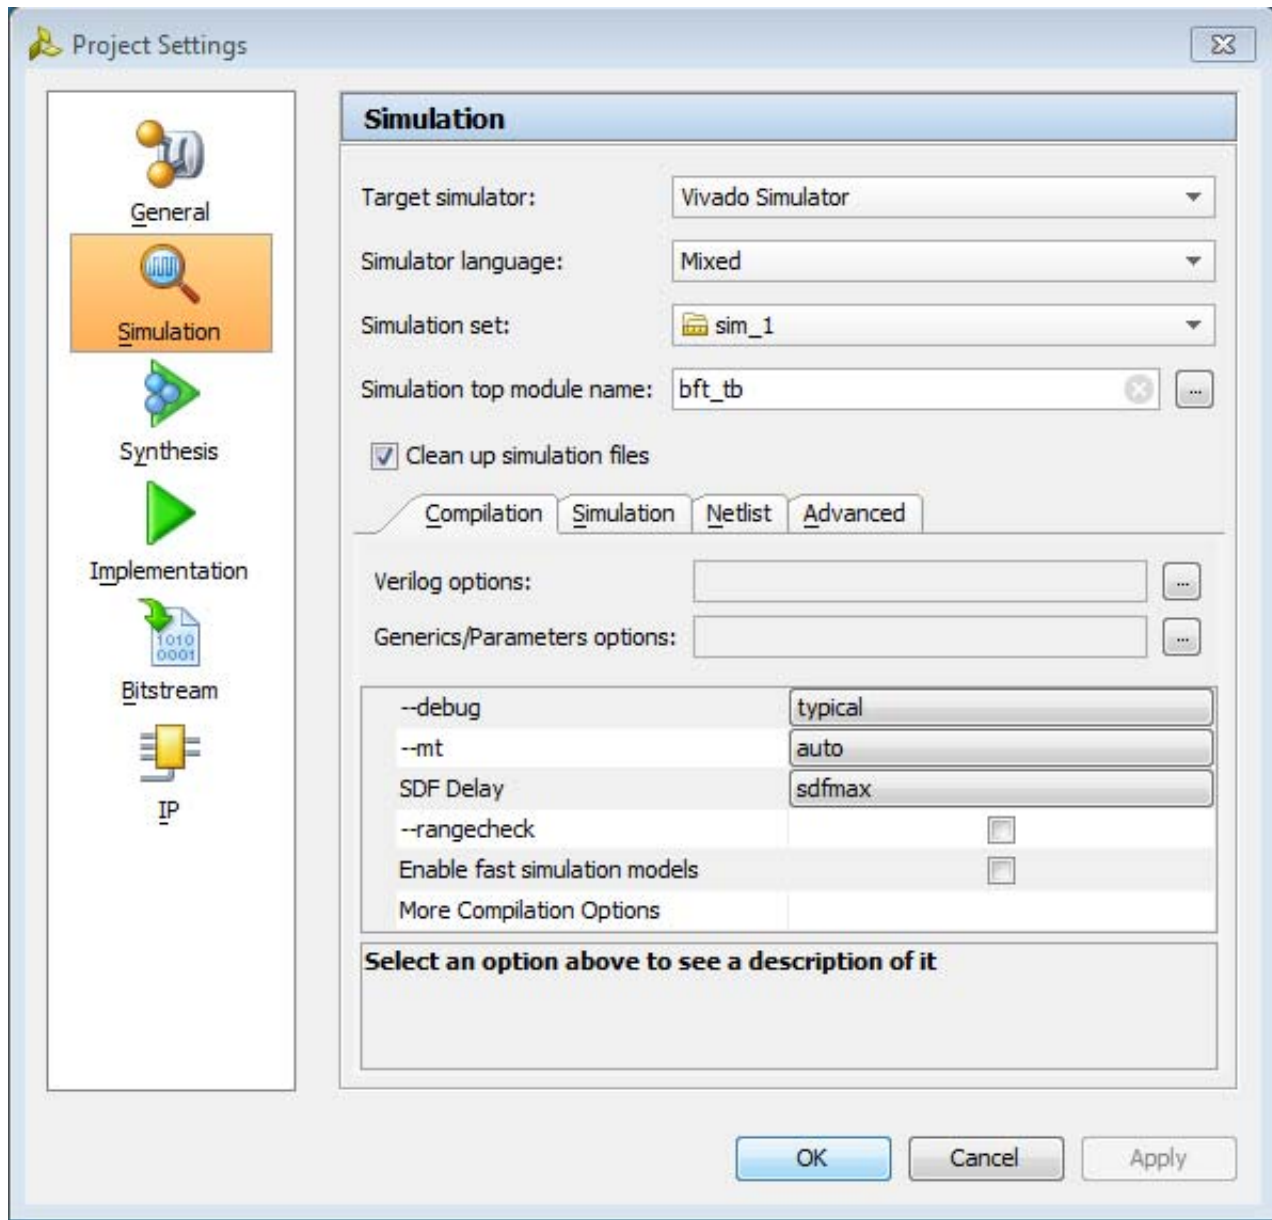

Figure 3-3: Simulation Settings Dialog Box
- **Run Simulation:** Sets up the command options to compile, elaborate, and simulate the design based on the simulation settings, then launches the Vivado simulator. When you run simulation prior to synthesizing the design, the Vivado simulator runs a behavioral simulation, and opens a waveform window, (see Figure 3-3, page 44) that shows the HDL objects with the signal and bus values in either digital or analog form.
When you select **Simulation Settings**, the Project Settings dialog box opens, as shown in Figure 3-3.